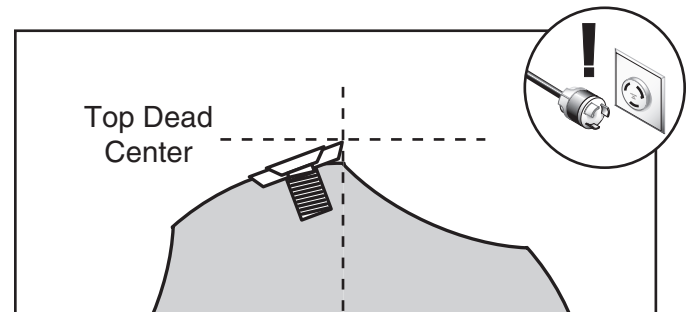

Figure 22. Carbide insert at top-dead-center.
3. Open the motor access panel and rotate the cutterhead pulley until one of the carbide inserts is at top-dead-center (TDC), as illustrated in **Figure 22**.